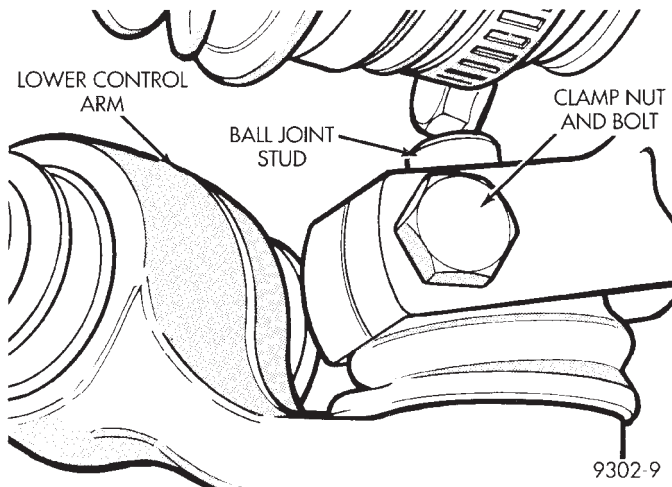

Fig. 23 Control Arm To Steering Knuckle Attachment
(8) Install lower ball joint studs into steering knuckles. Install steering knuckle to lower ball joint stud, clamp bolts and nuts into steering knuckles (Fig. 23). Torque clamp bolt to 55 N•m (40 ft. lbs.).